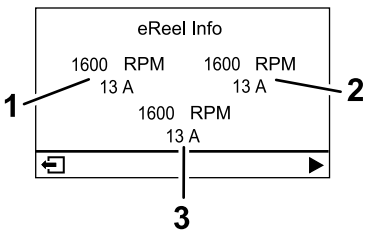

Figure 18
- eReel motor screen (Figure 18):** shows the speed and current of each cutting-unit motor.